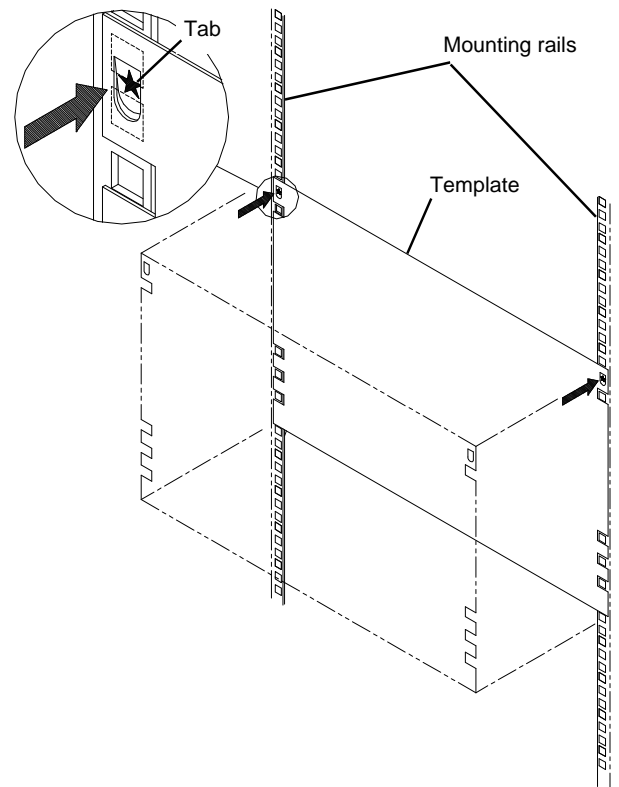

Figure 5
- Using the **template** provided with the Compaq server, measure carefully on the outside of the front and rear of the rack frame and pencil mark the attachment points for the server mounting brackets. Use the tabs on the template to suspend the template from the holes in the mounting rails. See **Figure 5**.